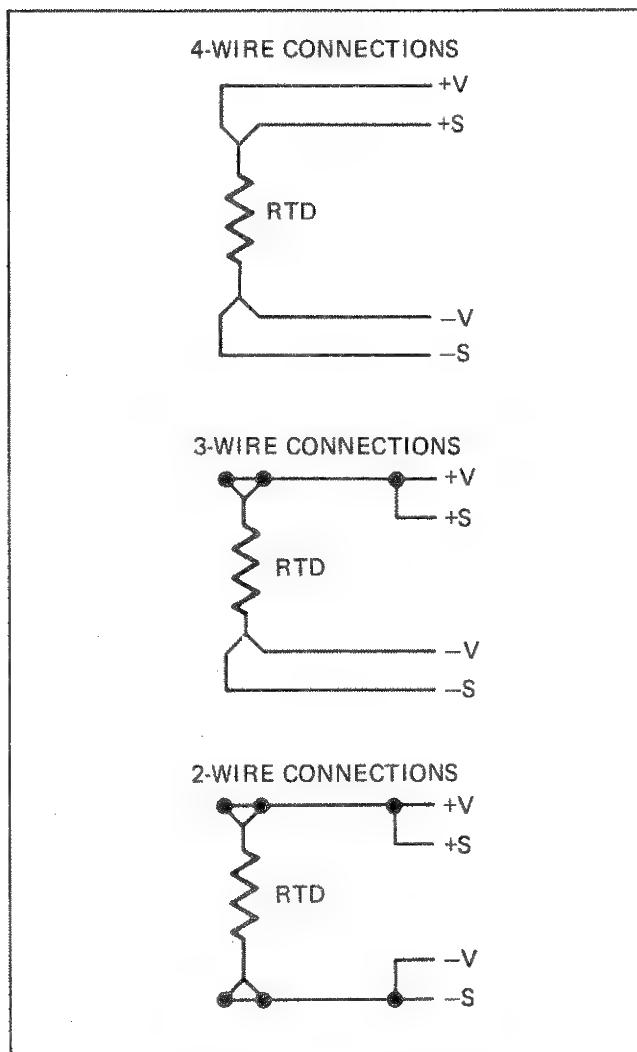

Figure 2-2. RTD Connections
3. Route the selected RTD lines through the Input Module's rear access port, and connect them to the input terminals; depending on the type of RTD, connections may involve 2, 3, or 4 wires. Refer to Figure 2-2 as a reference when connecting RTD lines to the Input Module (TB1). Lines of the same color usually go to the same polarity connections (+V and +S, or -V and -S). Refer to instructions included with the RTD for specific connection directions.
When 2- or 3-wire RTDs are used, there is some error created due to the RTD excitation current in the Sense (S) wire leads. To minimize this error, the user should (when possible) use the 4-wire RTD connection as shown in Figure 2-2.